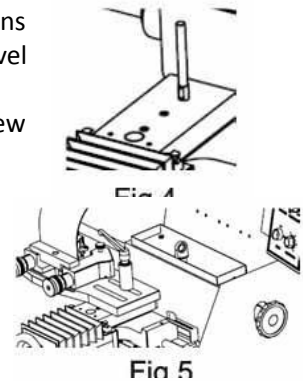

Fig. 5
2). Place one of the slotted holes of the disc attachment over the stud. Add the spacer and the washer. (Figure 5) Secure the attachment using the clamp handle.